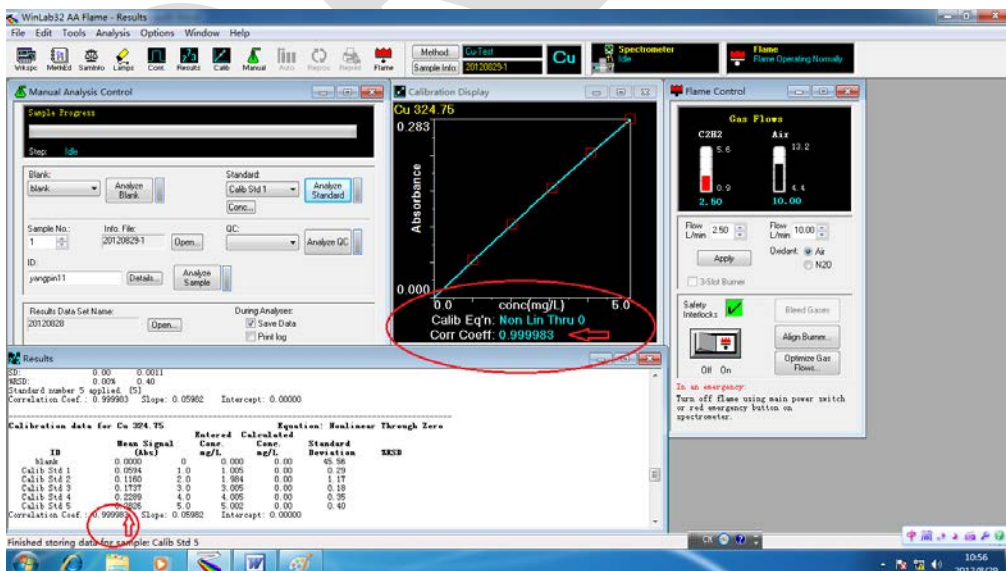

Fig. 23
3.3.5 Analyze standards. Check the result after all standards have been tested (fig.23). $R \geq 0.999$, contact LFST if not.